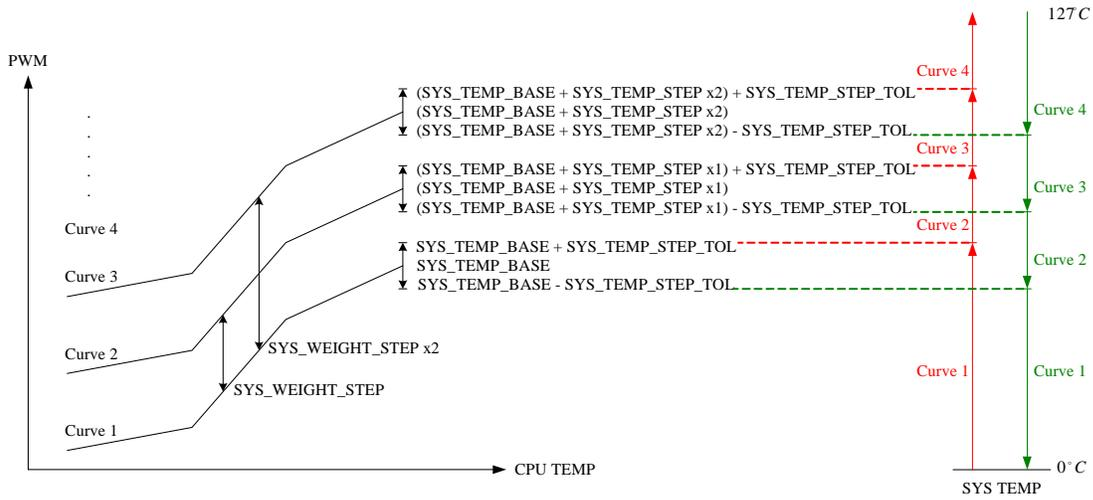

Figure 8-22 Fan out Duty Curves
**Figure 8-22 Fan out Duty Curves** illustrates the curves of Fanout Duty. With different register setup, the user can define n curves. As the SYSTIN temperature rises, the curve may jump from curve 1 to curve 2, curve 2 to curve 3, ... and curve n-1 to curve n. Likewise, as the temperature falls, the curve may change from curve n to curve n-1, ... , and curve 2 to curve 1.